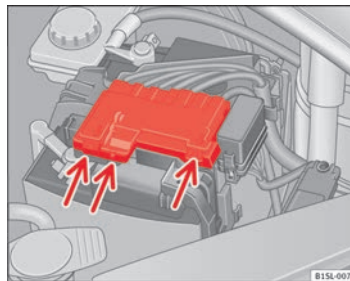

Fig. 115 In the engine compartment: Remove the cover from the vehicle's battery
- Press on the tabs ⇒ Fig. 115 (arrows) in the direction of the arrows and lift the battery cover up.